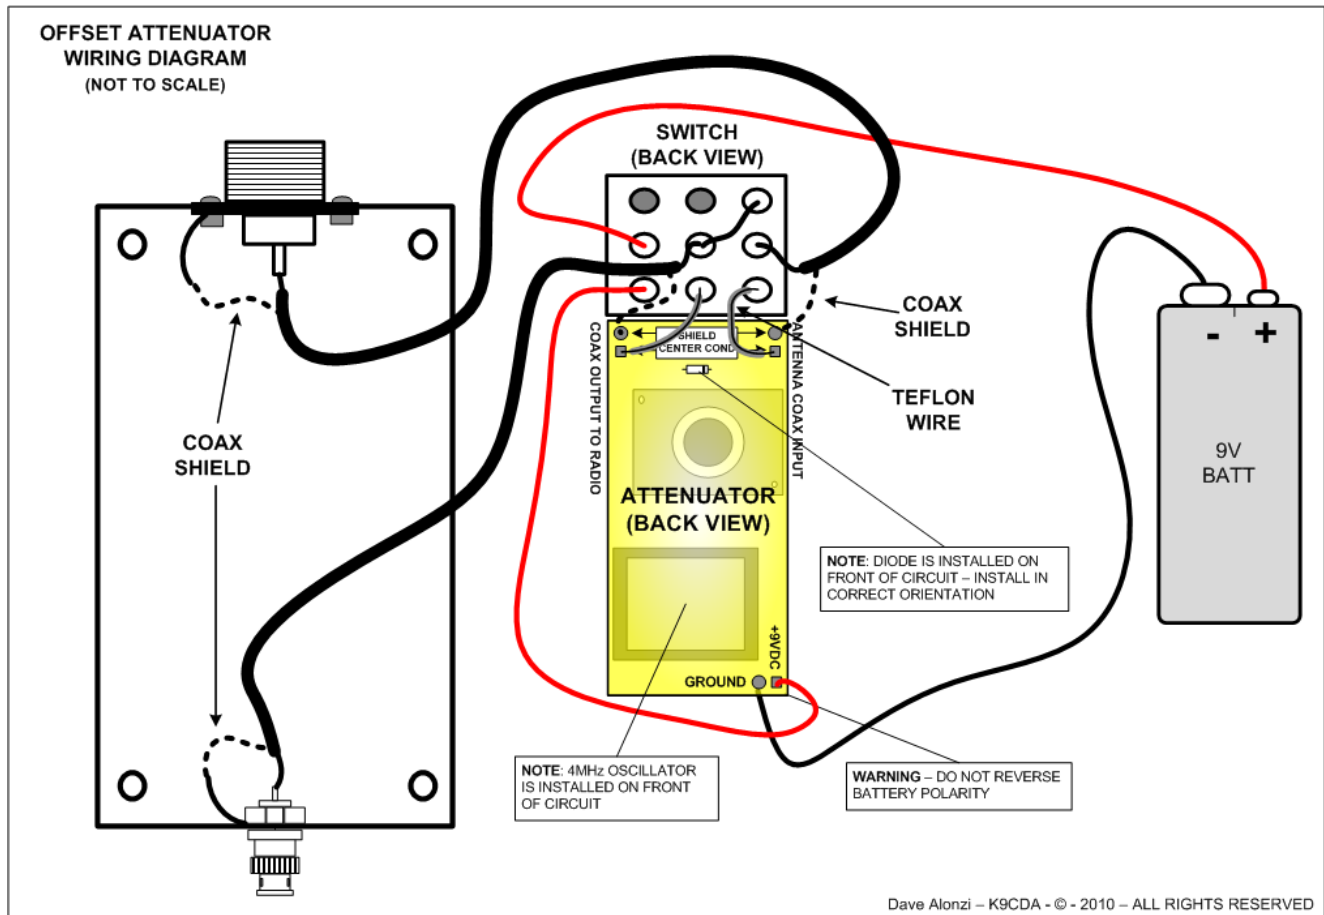

Figure 2 - WIRING DIAGRAM
11. In the next several steps you will be connecting the toggle switch to the coaxial cable and to the circuit board. Use caution soldering the switch and wires as the coaxial cable insulation will melt with excessive heat. The cables are prepared and will be installed according to the wiring diagram shown in Figure 2.
13. Solder the second coaxial cable center conductor to the right center switch terminal as shown in Figure 2. The braided section will be soldered to the circuit board pad as shown.